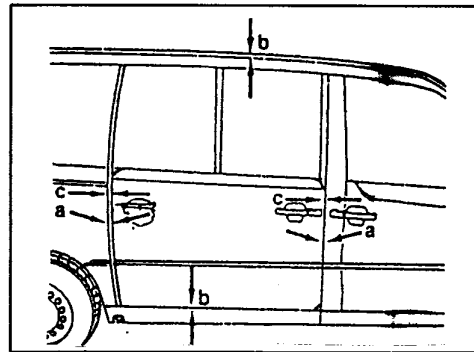

Figure 8
8. Close sliding door carefully and check that the door is flush to the body and all gaps are within specifications. (Figure 8 arrows, a - b - c). If necessary readjust alignment and gaps at the upper / middle / lower - roller assembly brackets. Refer to workshop manual page 72 -1260/1